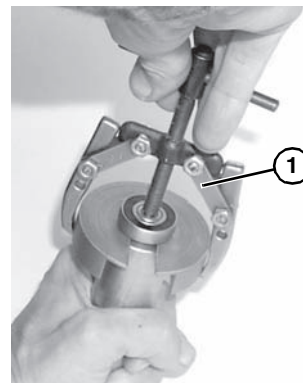

Figure 36
2. Using a puller part #807-1716 (Figure 36, item 1), remove and discard bearing.